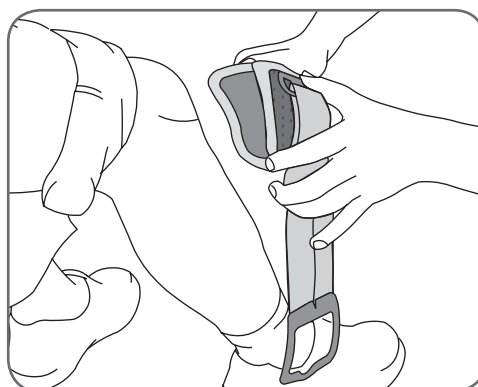

Figure 8-16: Removing the L300 FS Cuff with the captured electrode bases.
8. Gently remove the L300 FS Cuff from the leg. See Figure 8-16.